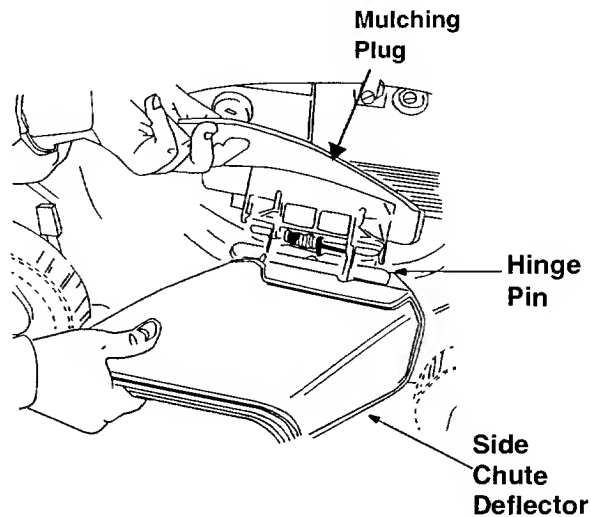

Figure 6
- Your mower has been shipped as a mulcher. To convert it to a side-discharge mower, lift the mulching plug. Slide the two hooks on the side-discharge deflector under the hinge pin on the mulching plug assembly. Lower the mulching plug. See Figure 6.